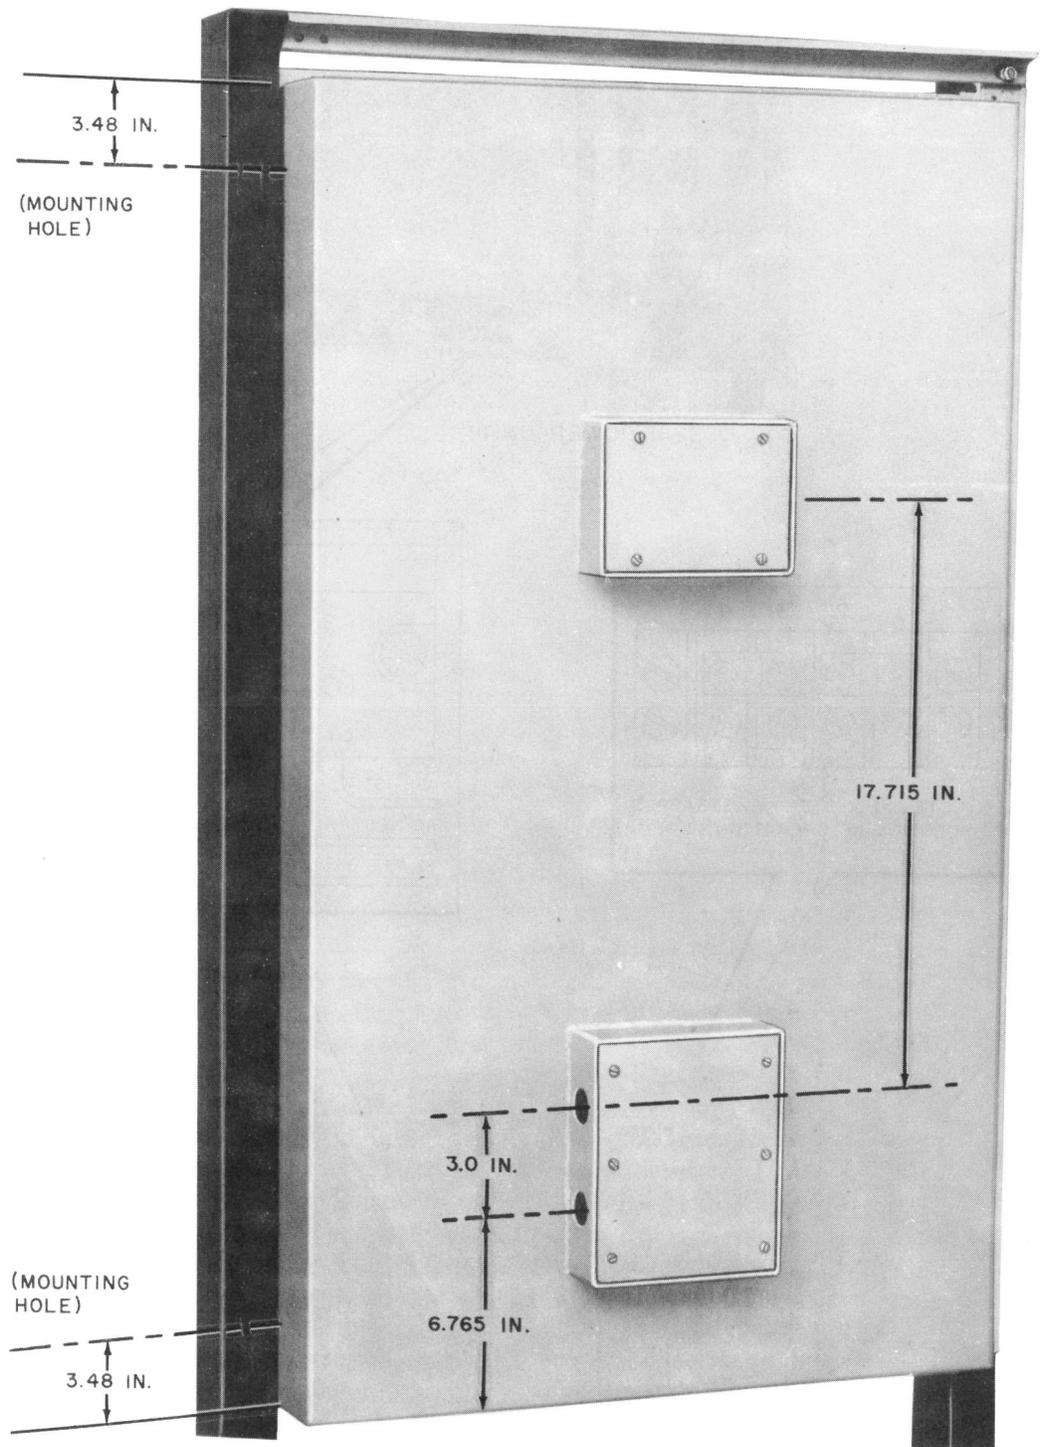

Fig. 1—Typical Data Set 207C-Type, Rear View With Dimensions
**2.06** When installing Data Set 207C-type equipment, remove the covers from both the data set access box and power supply access box. Interface leads from 3/4-inch rigid ferrous conduit must be brought through the left side of the data set access box, as seen from the rear, located at the bottom (Fig. 1) before attaching the conduit to the appropriate access box holes. Use the mesh gaskets under the conduit lock nuts. Pull enough wire through the access box so that connections to adapter boards A1 and A2 may be made outside of the shield. The ac power leads will be provided through a conduit to the right side of the power supply access box, as seen from the rear, located at the top.